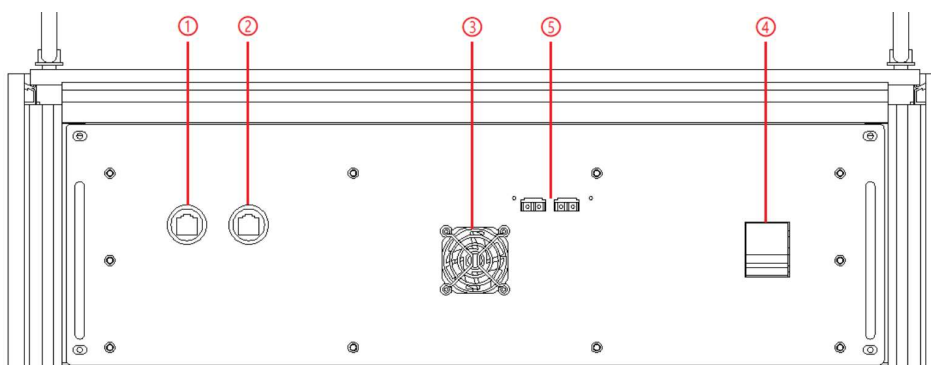

Figure 3-2 Control Modules
After the AC input is powered on, open the cabinet door, close the power switch of the control module (Figure 3-2④).